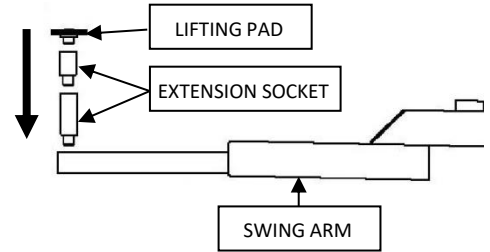

FIGURE 17 : INSERTION DE RALLONGES
- 9.2 ADJUST THE HEIGHT OF THE LIFTING PADS BY ADDING OR REMOVING EXTENSION SOCKETS TO PUT THE VEHICLE UP AT LEVEL AND TO HAVE THE SHORTEST DISTANCE BETWEEN LIFTING PADS AND THE LIFTING POINTS RECOMMENDED BY THE VEHICLE'S MANUFACTURER. SEE **FIGURE 17**.
4. INSTALL THE LIFTING PADS AND EXTENSION SOCKETS IN THE HOLES AT THE END OF THE SWING ARMS. SEE **FIGURE 17**.
SEE **FIGURE 17**.